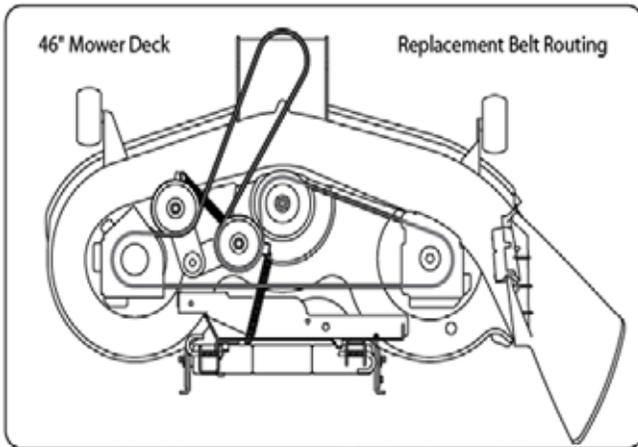

Figure 8.7
- For a 46" deck, See Figure 8.7.